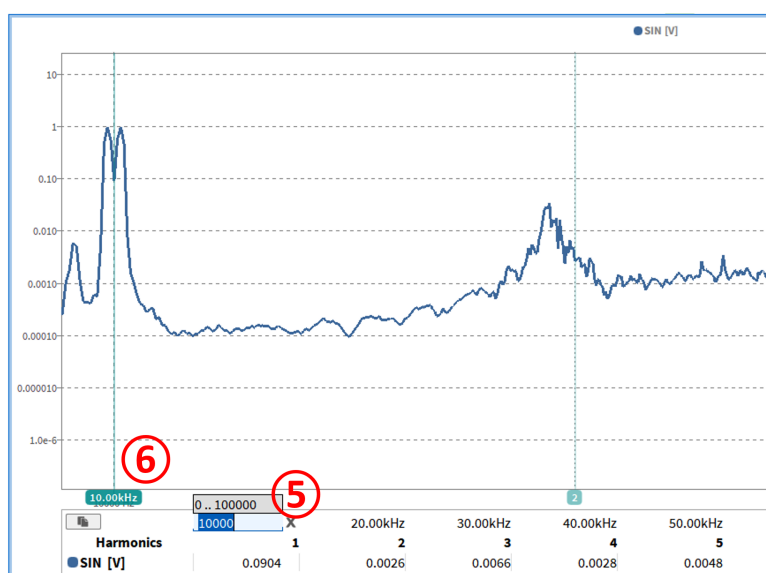

Fig. 8.51: Changing the 1st Harmonics cursor position
The cursor position can be changed by entering a new frequency for the first harmonic (see ⑤ in Fig. 8.51). It is also possible to move the first harmonic cursor with the left mouse button (see ⑥ in Fig. 8.51). The position of the higher harmonics is automatically adjusted.